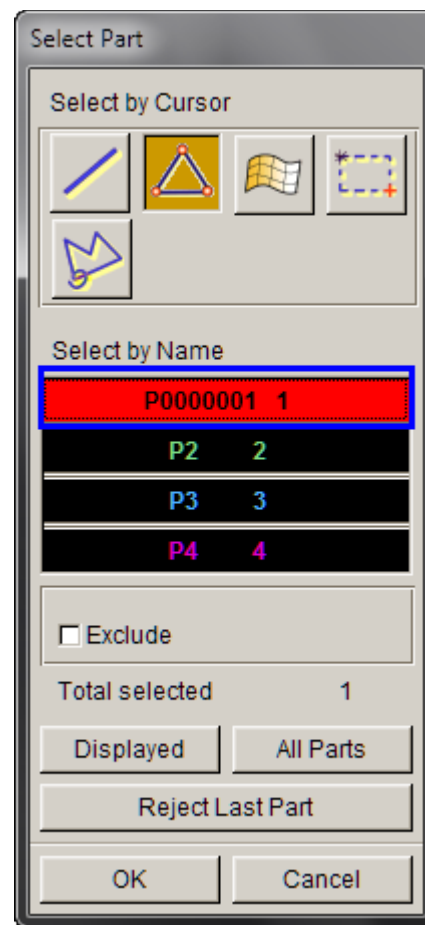

Figure 6
6. Click **OK** to define it as the blank part (Figure 6).